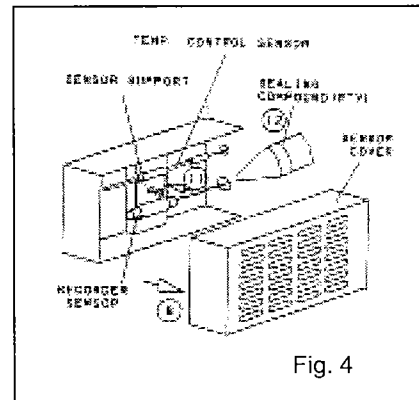

Fig. 4
(Fig. 4)
11. Remove the sensor support and position the recorder sensor and then replace the stopper. (Fig. 4)
12. Seal around the hole for recorder sensor completely by applying the sealing compound (RTV) to outside and inside of the chamber. (Fig. 4)